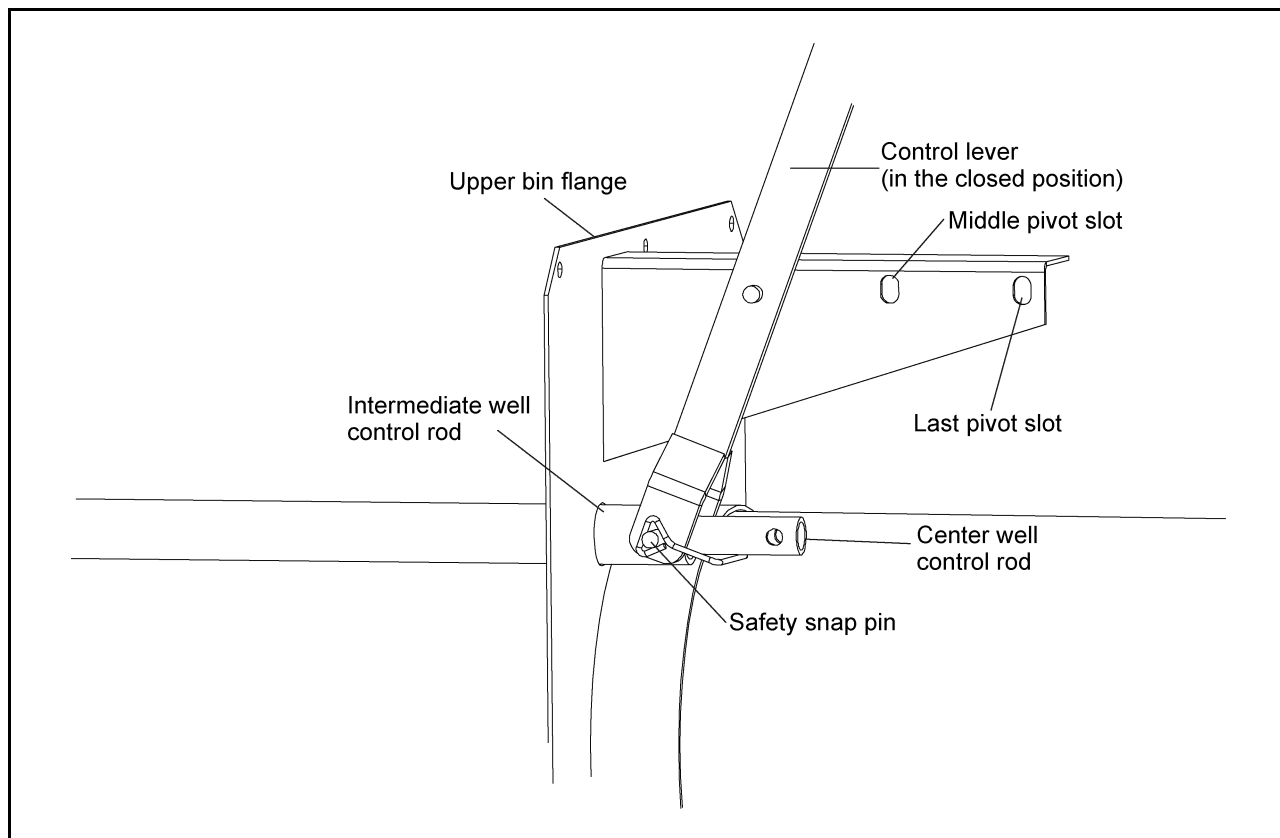
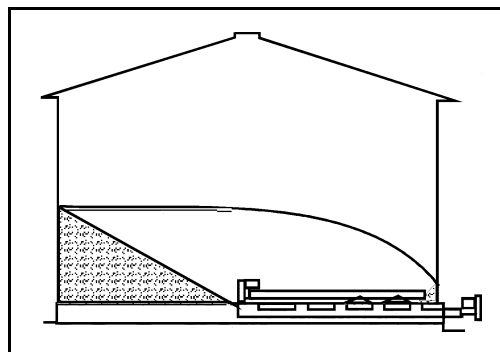

Figure 5C
Figure 5F
2. The safety snap pin should be inserted through the center well control rod and the control lever. Make sure it has NOT been inserted through the intermediate control rod. See Figure 5C.
3. Place control lever in the second slot and pull lever to open gradually until the desired flow is established. See Figure 5C. It should not be necessary to open the gate more than 3" to 6".
6. Gradually open gates using the middle pivot slot until the desired flow of grain is reached. You should not open the gates more than 2 to 4 inches. If gates need to be opened further, use the last slot for more leverage. See Figure 5C on Page 38. The remaining grain should look similar to Figure 5F.
6. Gradually open the gates until the desired flow of grain is reached. You should not open the gate more than 2" to 4". The remaining grain should look like Figure 5F on Page 39.